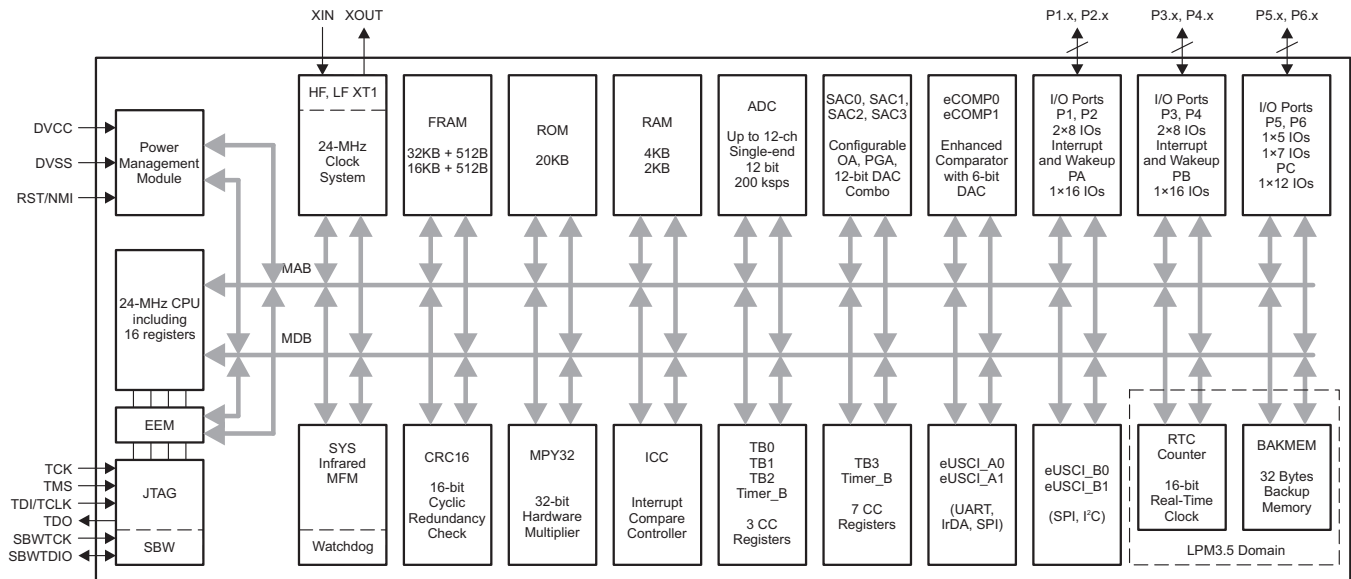
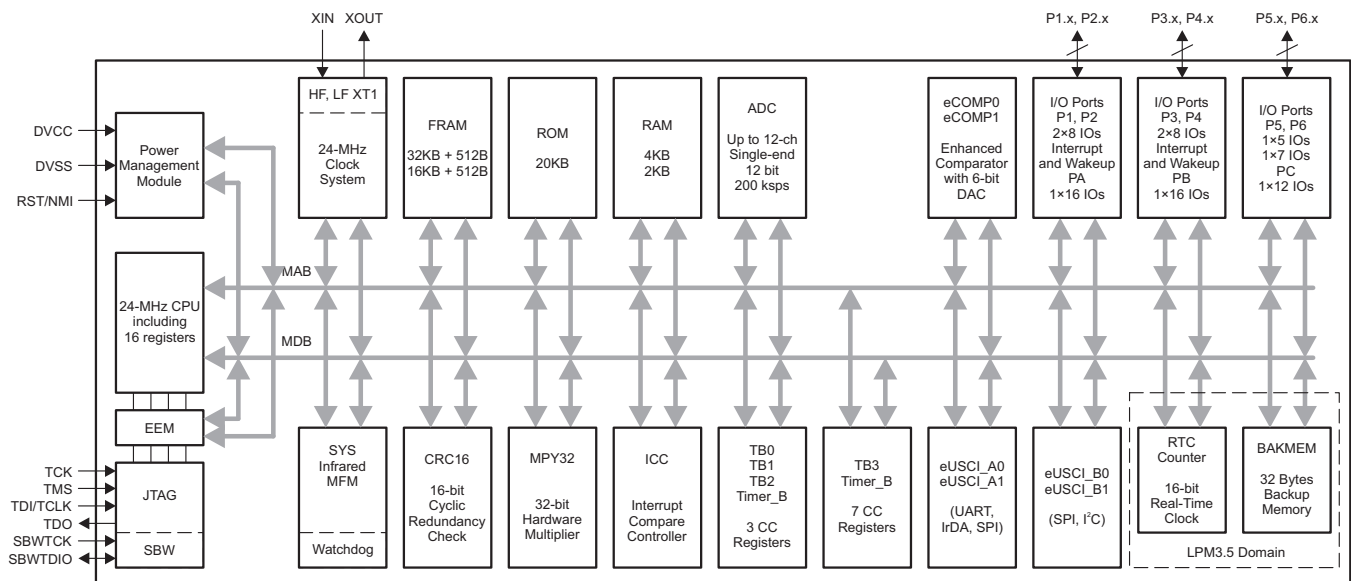

Figure 1-1. MSP430FR235x Functional Block Diagram
Figure 1-2. MSP430FR215x Functional Block Diagram
Figure 1-1 shows the MSP430FR235x functional block diagram.
Figure 1-2 shows the MSP430FR215x functional block diagram.
- Corrected the ROM size in Figure 1-1 MSP430FR235x Functional Block Diagram and Figure 1-2 MSP430FR215x Functional Block Diagram 4 - Added a note on all VQFN pinouts to indicate that the thermal pad should be connected to VSS 11 - Corrected Figure 4-4, 32-Pin RSM (VQFN) (Top View) – MSP430FR235x..... 13 - Changed the note that begins "Supply voltage changes faster than 0.2 V/μs can trigger a BOR reset..." in Section 5.3, Recommended Operating Conditions 27 - Added the note that begins "TI recommends that power to the DVCC pin must not exceed the limits..." in Section 5.3, Recommended Operating Conditions 27 - Changed the note that begins "A capacitor tolerance of ±20% or better is required..." in Section 5.3, Recommended Operating Conditions 27 - Combined former sections 5.8 and 5.10 into Section 5.9, Production Distribution of LPM Supply Currents 31 - Corrected the "SVS disabled" condition for Figure 5-1 31 - Added the note "See MSP430 32-kHz Crystal Oscillators for details on crystal section, layout, and testing" to Table 5-3, XT1 Crystal Oscillator (Low Frequency) 35 - Changed the note that begins "Requires external capacitors at both terminals..." in Table 5-3, XT1 Crystal Oscillator (Low Frequency) 35 - Added the $t_{TB, cap}$ parameter in Table 5-13, Timer_B..... 45 - Corrected the test conditions for the R_I parameter in Table 5-20, ADC, Power Supply and Input Range Conditions. 51 - Removed ADCDIV from the equation for the ADC conversion time because ADCCLK is after division in Table 5-21, ADC, Timing Parameters 51 - Added the note that begins "$t_{Sample} = \ln(2^{n+1}) \times \tau$..." in Table 5-21, ADC, Timing Parameters 51 - Changed the unit from "nV" to "μV" for the "Input noise voltage" in the Table 5-25, SAC, OA 55 - Changed the unit from "nV/√Hz" to "nV/√Hz" for the "Input noise voltage density" in the Table 5-25, SAC, OA 55 - Removed the I_{ref} trim parameter from Table 5-27, FRAM 57 - Changed the bitfield name from RTCCLK to RTCKSEL in the table note on Table 6-9, Clock Distribution 68 - Added Section 6.10.17, Cross-Chip Interconnection (SACx are MSP430FR235x Devices Only) 83 - Added P1SELC information in Table 6-41, Port P1, P2 Registers (Base Address: 0200h) 86 - Added P2SELC information in Table 6-41, Port P1, P2 Registers (Base Address: 0200h) 86 - Added P3SELC information in Table 6-42, Port P3, P4 Registers (Base Address: 0220h) 87 - Added P4SELC information in Table 6-42, Port P3, P4 Registers (Base Address: 0220h) 87 - Added P5SELC information in Table 6-43, Port P5, P6 Registers (Base Address: 0240h) 87 - Added P6SELC information in Table 6-43, Port P5, P6 Registers (Base Address: 0240h) 87 - Changed CRC covered end address to 0x1AF7 in table note (1) in Table 6-70, Device Descriptors 107